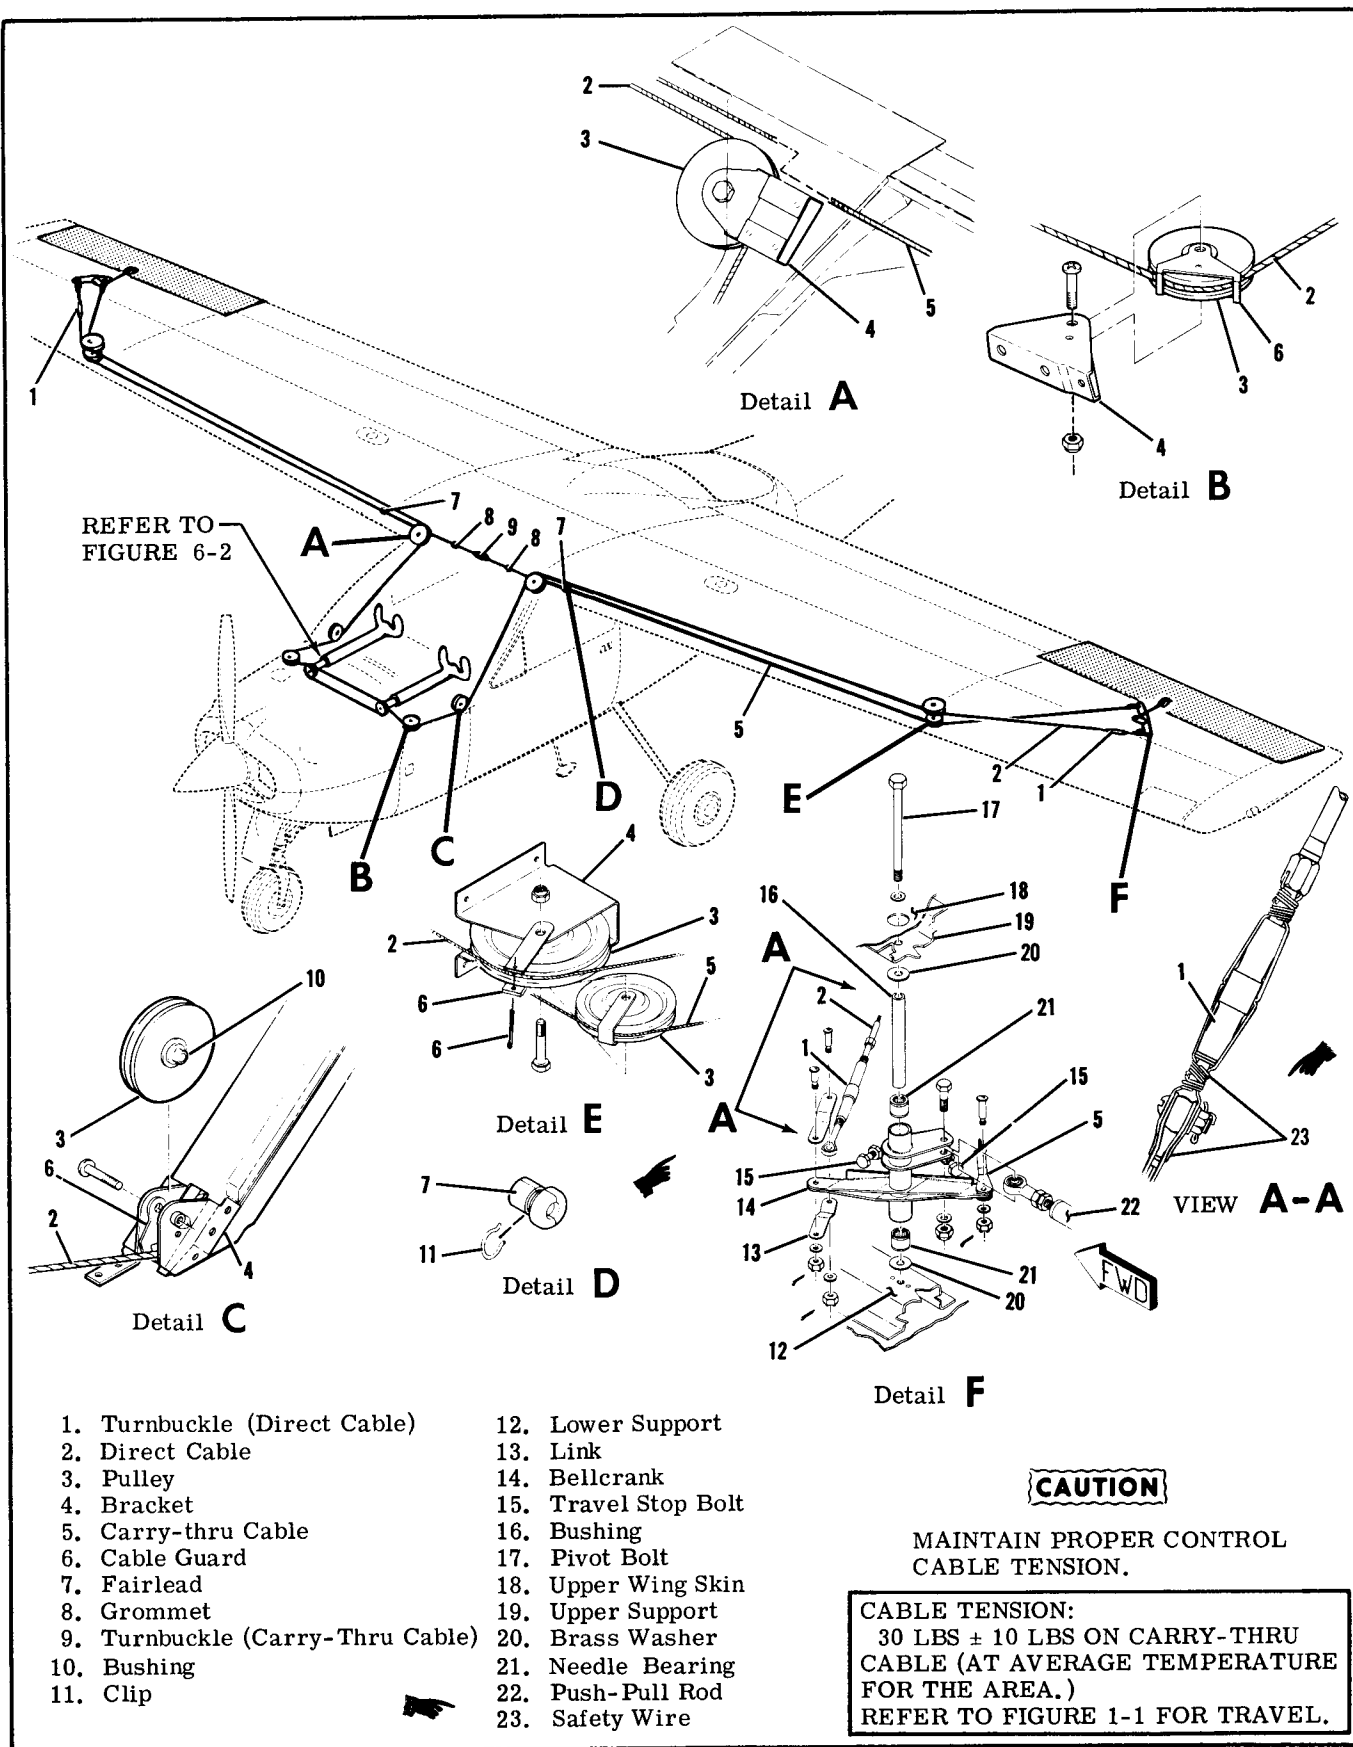

Figure 6-1. Aileron Control System
6-1. AILERON CONTROL SYSTEM. (Refer to figure 6-1.)
a. Remove screw securing decorative collar (2) and slide collar forward to expose control wheel mounting screws.
b. Remove screws securing control wheel (1) to tube and bearing assembly (14) and remove control wheel. Disconnect electrical wiring to control wheel, if installed.
d. Remove screws securing collar (3), spacer (4) and bracket (5) to instrument panel.
e. Disconnect link assembly (15) from sleeve weld assembly (11).
f. Loosen screw securing adjustable glide plug (38).
g. Pull control tube and bearing assembly (14) aft through instrument panel to remove.
h. Relieve aileron direct cable (27) tension by loosening turnbuckles (index 1, figure 6-1).
i. Relieve transition cable (34) tension by loosening turnbuckle (33).
k. Remove roll pin (32) securing tube assembly (36) to quadrant (31).
l. Remove nut (28) and washer from tube assembly (36) protruding through bearing block (24) on forward side of firewall (35) and remove tube assembly.
m. Disconnect cables from quadrant (31).
n. Reverse the preceding steps for reinstallation. Rig aileron and aileron-rudder interconnect systems in accordance with paragraph 6-20, safety turnbuckles and all other items previously safetied. Tighten nut (28) securing tube assembly (36) to firewall snugly, then loosen nut to 0.030" minimum clearance between nut and washer, align cotter pin hole and install pin.
6-12. CABLES AND PULLEYS. (Refer to figure 6-1.)